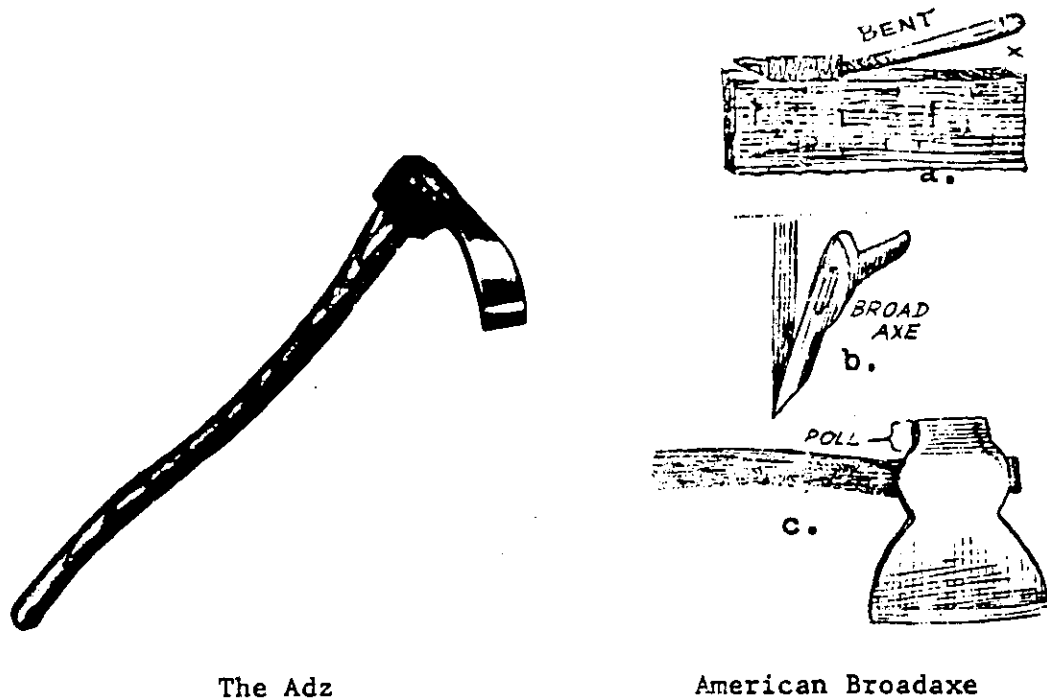

Figure 16 The Adz and Broadaxe
for squaring and hewing. It was excellent for hewing round logs into square beams. A man, skilled with a broadaxe, could transform a round log into a square beam in just a short time. As a rule, the adz would make surfaces smoother but usually took a little more time. The broadaxe is seen in Figure 16 along with the adz.
2. The Adz (Figure 16) is shaped like a hoe but has the cutting edge of an axe. This cutting tool differs from an axe, having an arching blade set at right angles to the handles, much like a grub hoe. The adz consists of a hardened steel head with a curved blade at one end  $3\frac{1}{2}$  to  $4\frac{1}{2}$  inches wide and usually a curved wooden handle to give balance and the proper angle for cutting. It is used for debarking, cutting, shaping and smoothing lumber or logs when a large amount of wood is to be removed. To use the adz, the timber to be worked should be straddled. The adz is then swung downward and towards the body, using short chopping strokes. The adz, like the drawknife, is becoming somewhat obsolete, but for the bushman who loves to do rustic building in the woods without all of the modern conveniences, the adz is a welcomed addition to his pioneering tools.